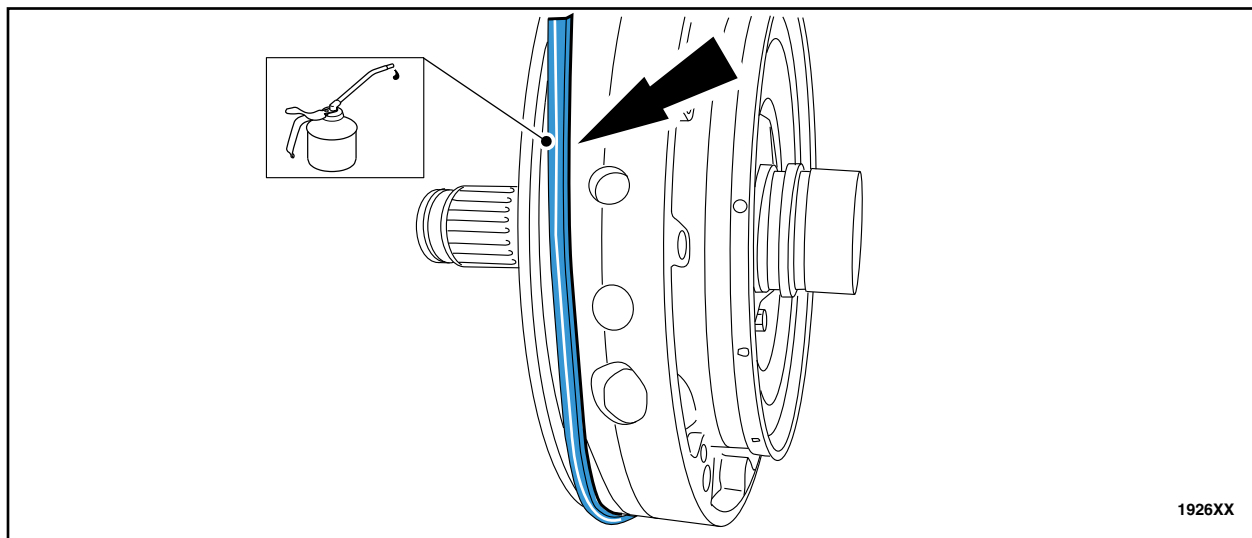

FIGURE 44
41. Coat the *new* front pump outer diameter square-cut seal with transmission fluid and install it with the white stripe facing out. See Figure 44.